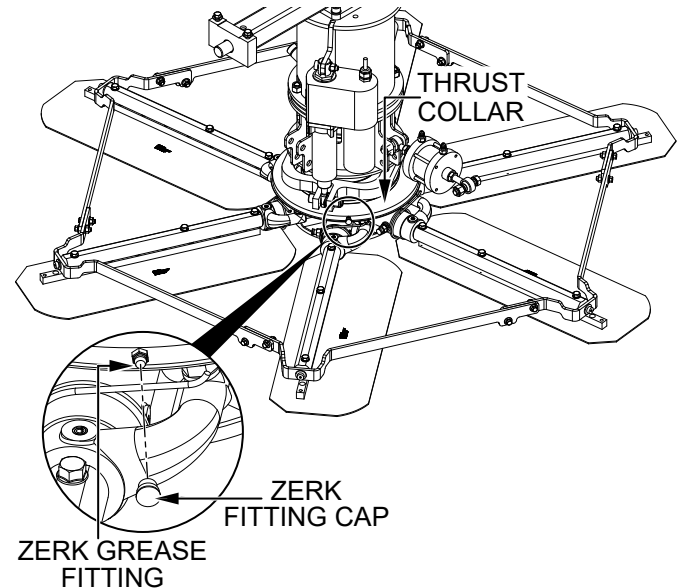

Figure 38. Thrust Collar Lubrication
1. Locate the **Zerk grease fitting** on either thrust collar (Figure 38). Remove the **Zerk fitting cap** and set it aside.